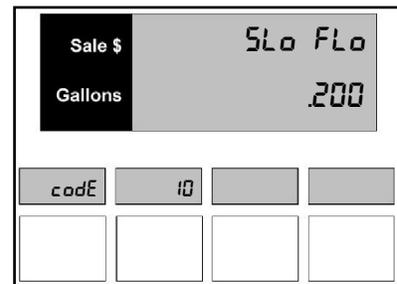

Figure 10.1 – Slow Flow Amount
1. Press the number **1** and **0**, then the **Mode** button on the keypad. If the dispenser has not been programmed since it came from the factory, the number 0.100 appears in the main display. This is the default setting for a volume of 0.1 units. The PPV display shows the dispenser is in Menu Code 10 as shown in *Figure 10.1*.